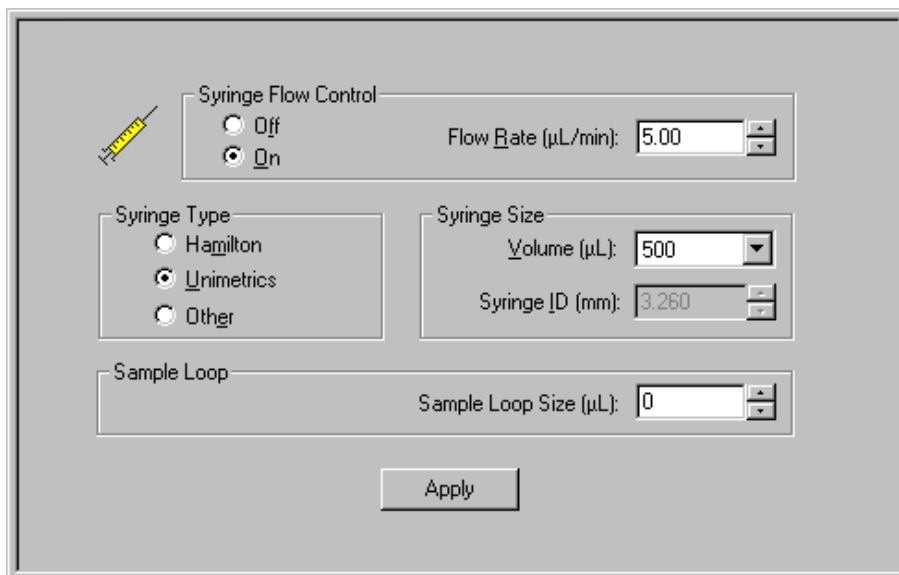

Figure 3-5. Syringe Pump and Sample Loop view
- a. Choose **Setup > Syringe Pump & Sample Loop** to display the Syringe Pump and Sample Loop view in the top right corner of the workspace. See Figure 3-5.